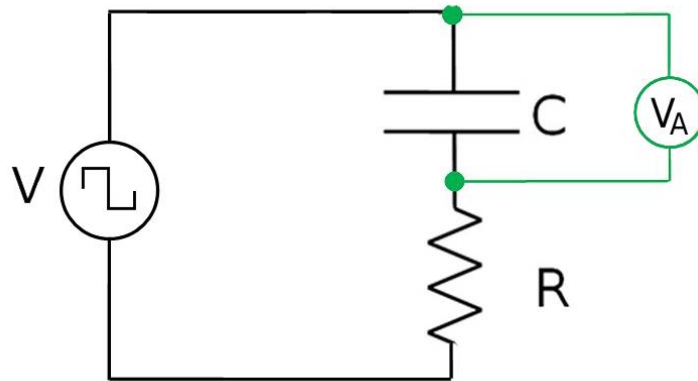

Figure 2: RC circuit diagram for experiment set up.
1. Construct the circuit shown in Figure 2.